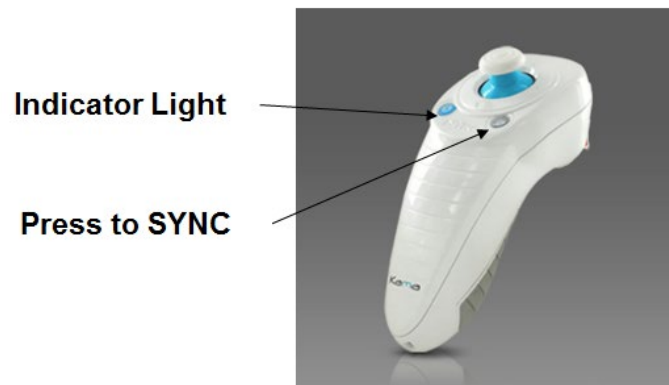

Figure 3-17. System Setup Status
- o If using the Original Remote (see Figure 2.3), press the sync button denoted with an “S” on the remote to synchronize the remote within the 15-second timeframe. See Figure 3-17 for sync button location. This is required for every procedure if use of the remote is desired.